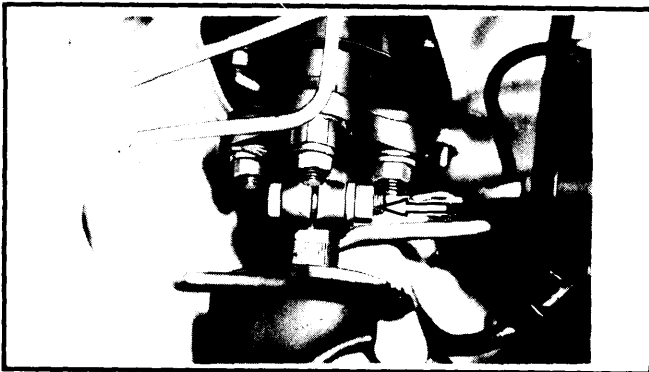

Fig. 1 Pinch Bolt Mounting Mainshaft to Steering Gear
**Removal** - 1) Working from inside engine compartment, remove bolt mounting steering mainshaft to steering gear box (Fig. 1). Before separating units, index mark for reinstallation and place front wheels in straight-ahead position.